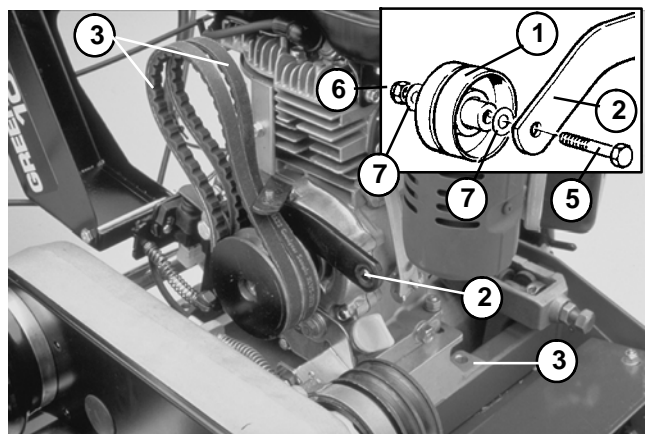

Figure 51
4. Remove idler pulley from the bellcrank assembly. Remove remaining two cap screws and lock washers securing engine base to the frame. Remove both V-belts (Fig. 51).